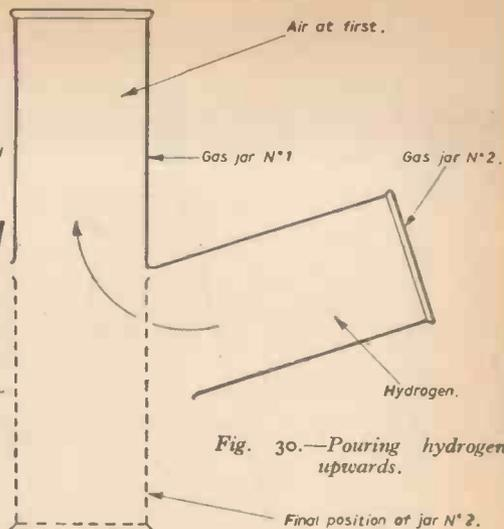

Fig. 30.—Pouring hydrogen upwards.
3. Try pouring the gas upwards into an empty jar (Fig. 30), and test with a light.